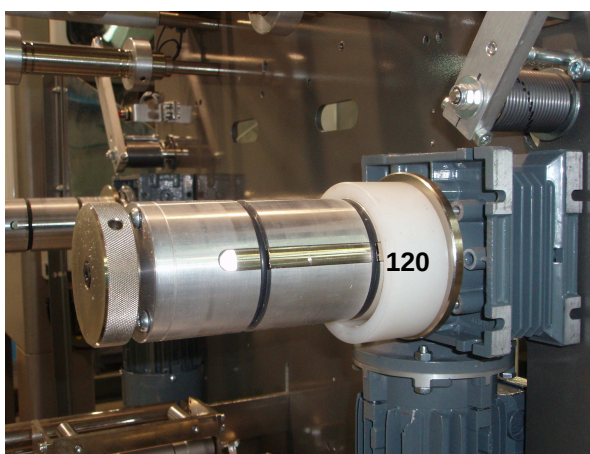

Fig. 13.7
- Place separating rings on the film reel holders that are appropriate for each film width, (75, 90 or 120). See fig. 13.7
- Place the film reel separating rings on the reel holder shaft. Each film width has its own corresponding ring (75, 90, 110, 120 or 145). See Fig 13.7.